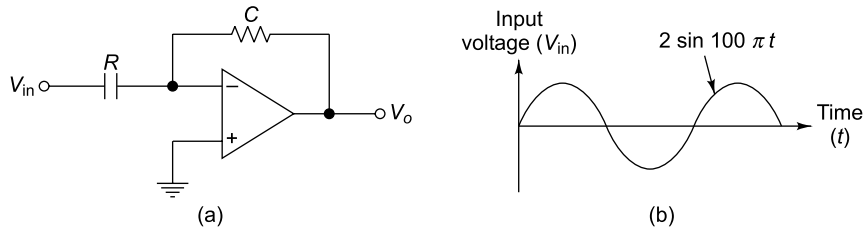

Fig. 5.47 Circuit of Ex. 5.22
5.22 Figure 5.47 shows a differentiation circuit. Draw the output voltage waveform when input voltage is $V_{in} = 2 \sin 100 \pi t$. Assume $CR = 0.01$ second.